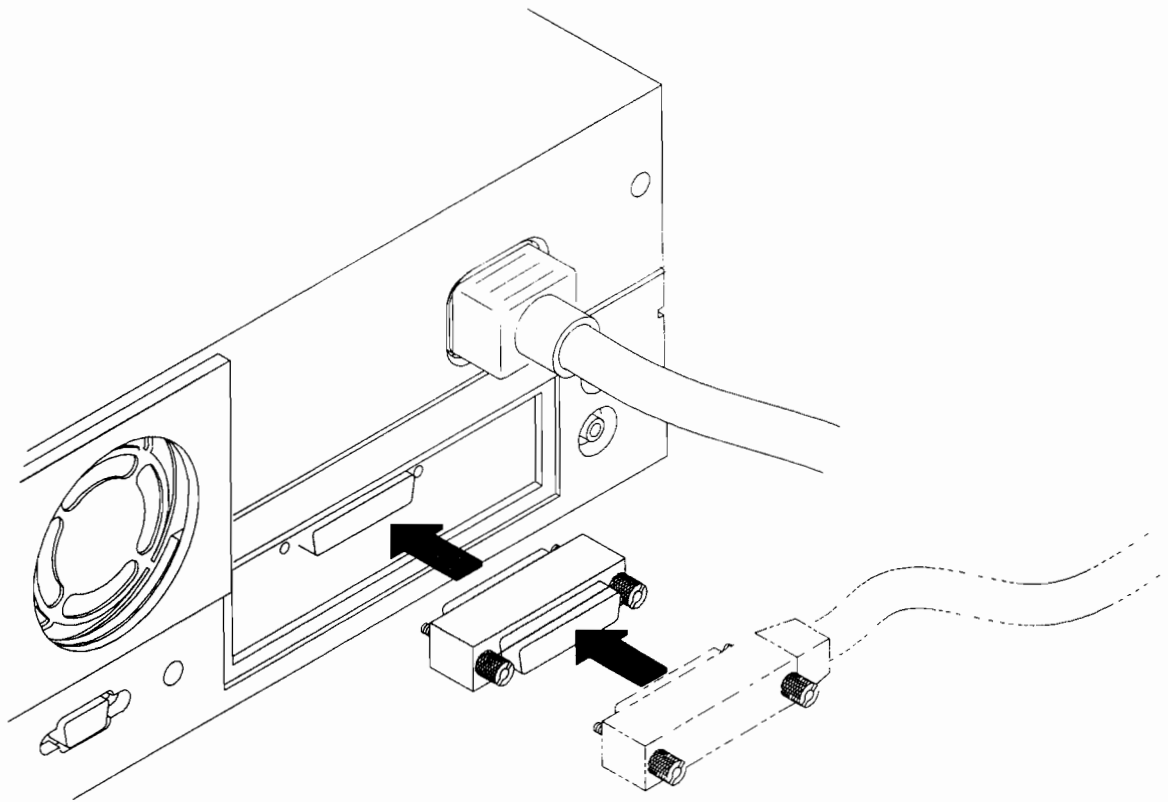

Figure B-19. Connecting to the EISA HPIB Host Adapter
- 11.** If you installed the EISA HPIB Host Adapter, use an HPIB extender connector (10834A) to connect to the board as shown in Figure B-19.